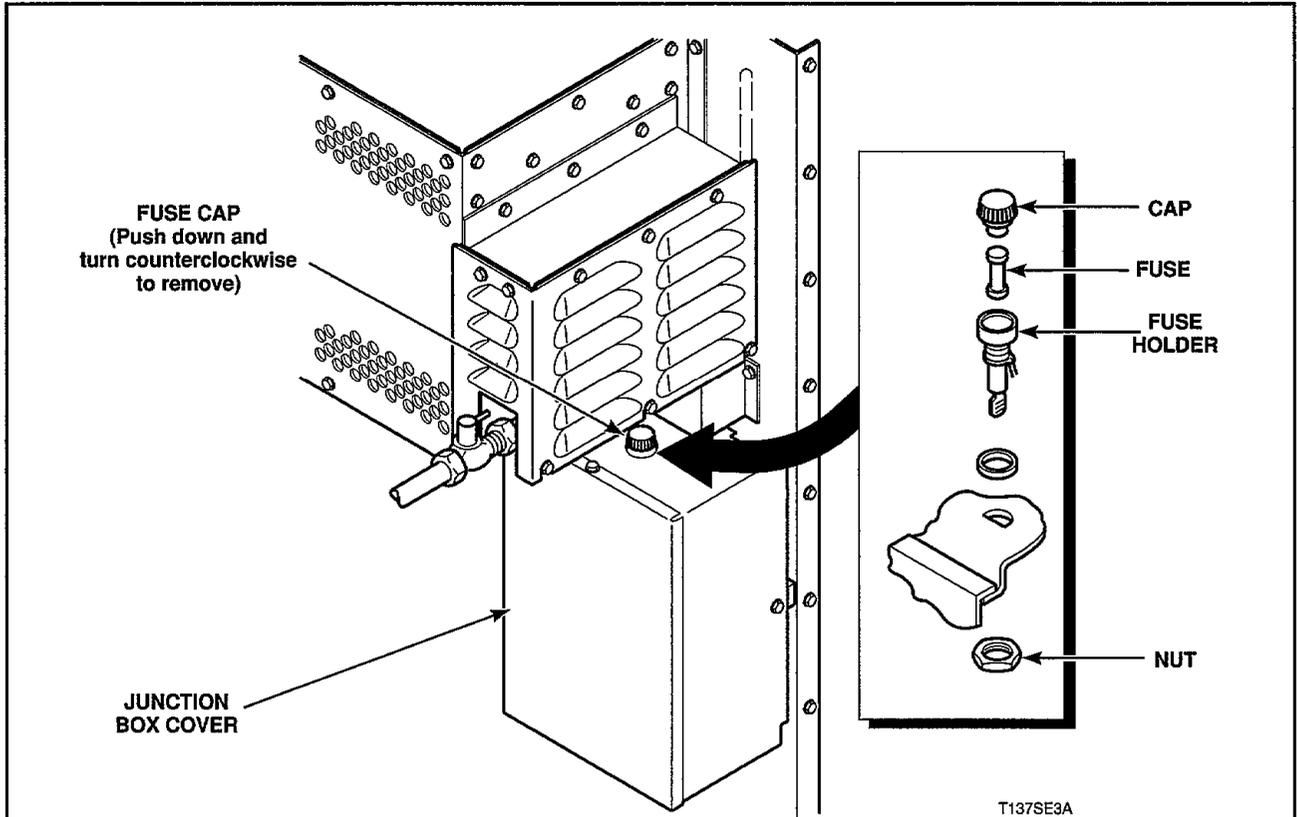

Figure 9
- Turn fuse cap counterclockwise to remove fuse, *Figure 9*.
- Remove junction box cover, *Figure 9*.